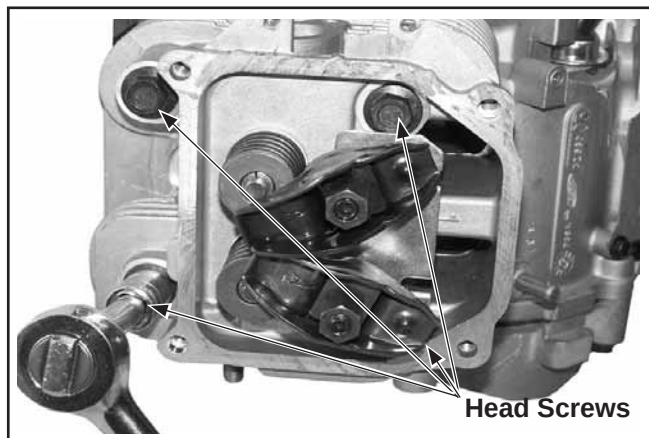

Figure 8-28. Removing Cylinder Head Screws (Center Pivot Adjustment Style Shown).
4. Remove the four hex flange screws securing each cylinder head. Discard the screws once removed. Do not reuse. See Figure 8-28.